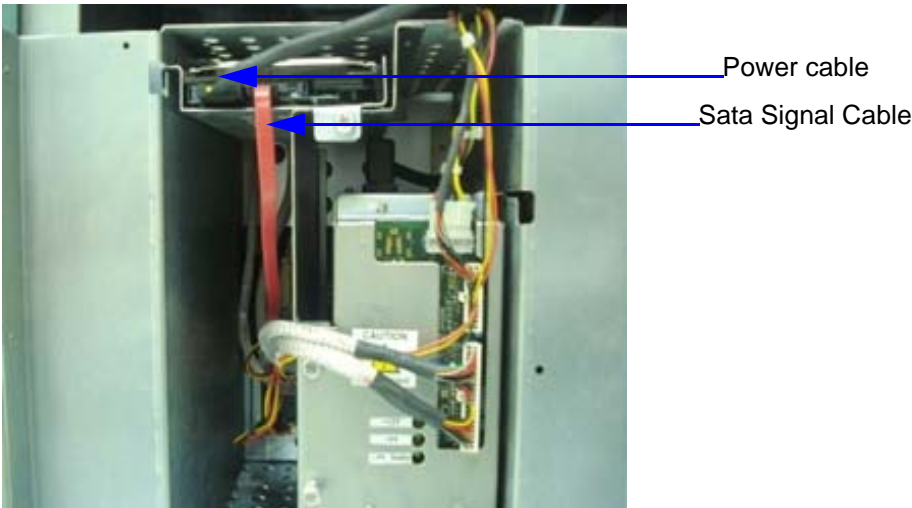

Figure 8-48 Removing SATA cable
3) Remove SATA cable from Hard disk drive assembly Refer Figure 8-48 on page 8-46